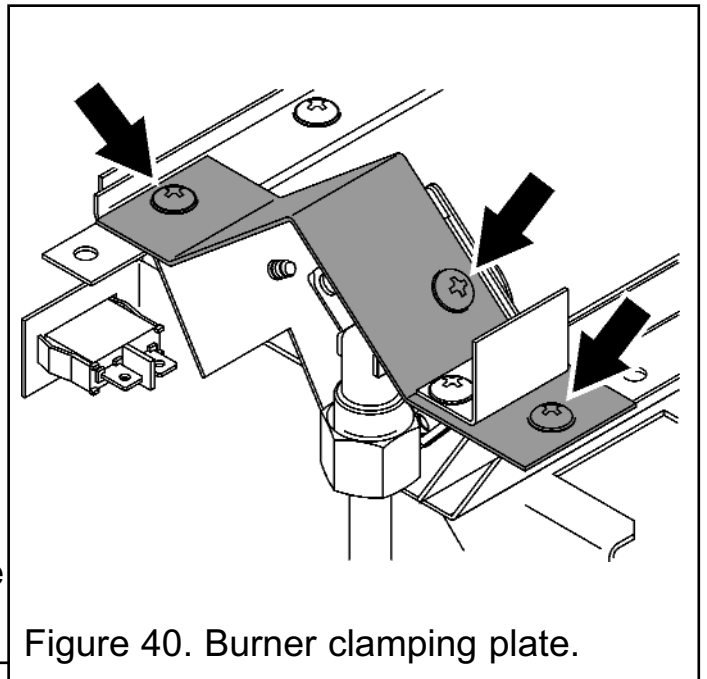

Figure 40. Burner clamping plate.
2. Unscrew and remove the burner clamping plate from the upper right hand side of the burner. Remove all three screws for ease (See figure 40).